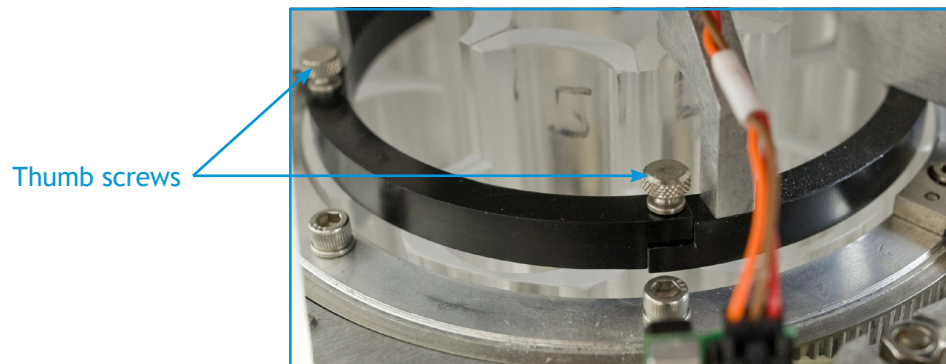

Figure 3-18: Carousel access gate
2. If necessary, remove the carousel access gate. Unthread the two thumb screws located at the ends of the gate and remove gate. See Figure 3-18.